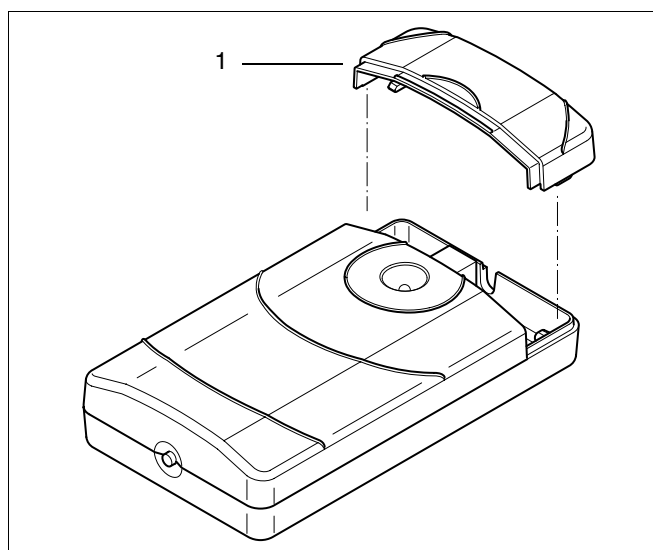

fig. 25 Receiver bracket
- Remove the casing of the receiver (fig. 25, item 1).